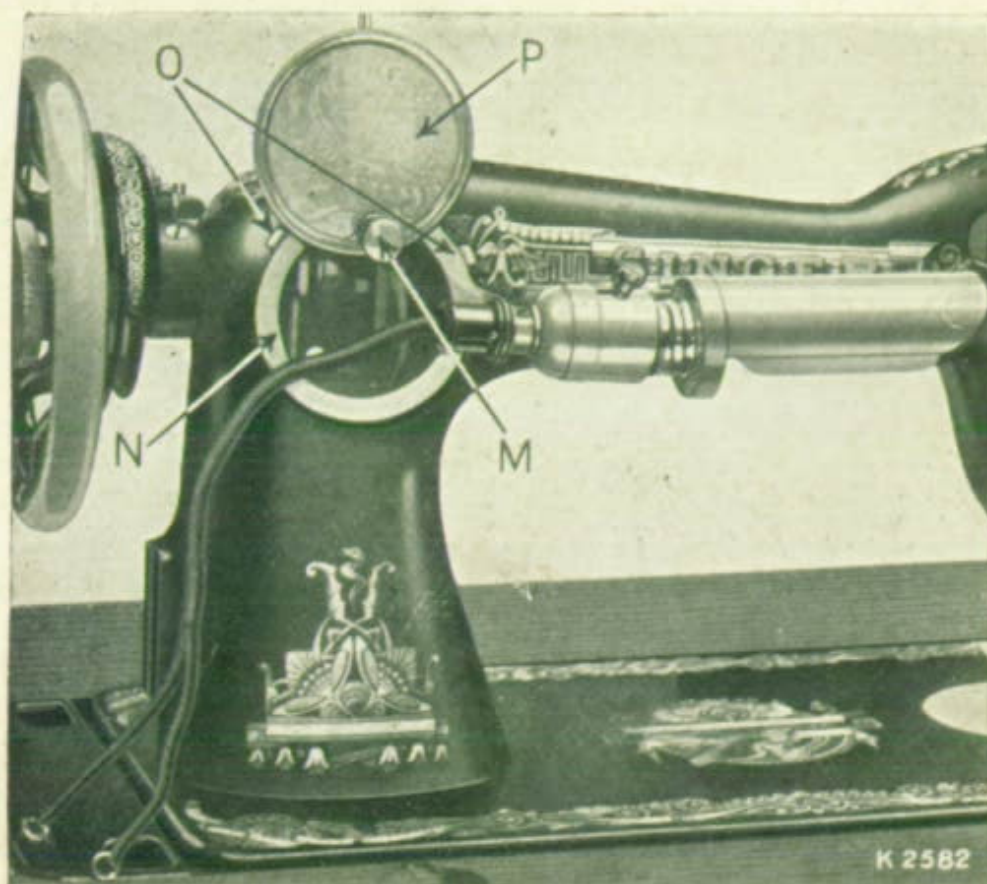

Fig. 6. Applying the Singerlight.
(See Fig. 6)
Remove the screw (M, Fig. 6) which holds the cover plate (P, Fig. 6) in position, and place the ring bracket (N, Fig. 6) over the opening, having the two small lugs (O, Fig. 6) in the position shown. These lugs are intended to maintain the Singerlight in the horizontal position. Place the cover plate (P) over the ring bracket and insert the screw (M) through the holes in both and into the hole in the arm of the machine. Turn the cover plate down to its normal position, and retighten the screw.